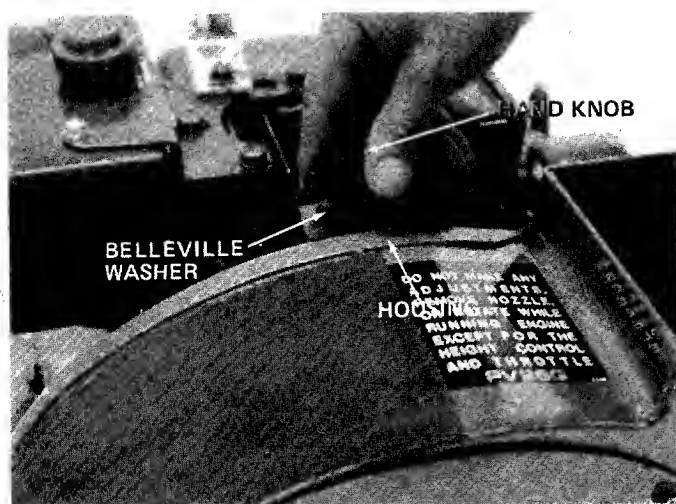

FIGURE 11.
4. Remove the hand knob and belleville washer holding the housing to engine brace. See figure 11.